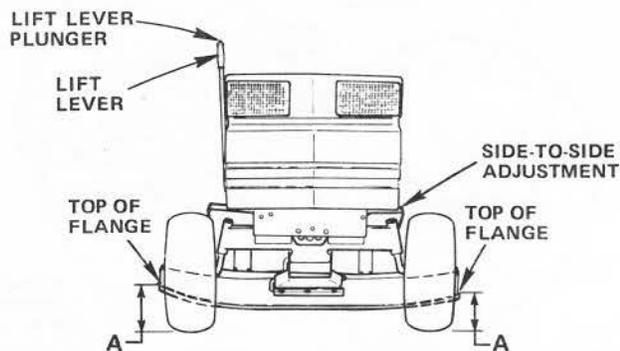

FIGURE 15
2. Measure height of Top of Flange to level surface at front of mower. Distance "A" should be the same (Fig. 15).